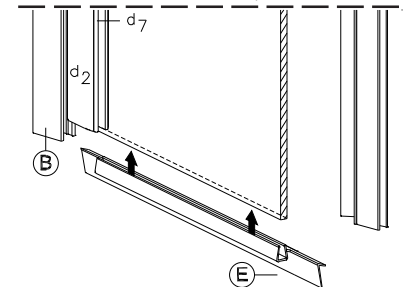
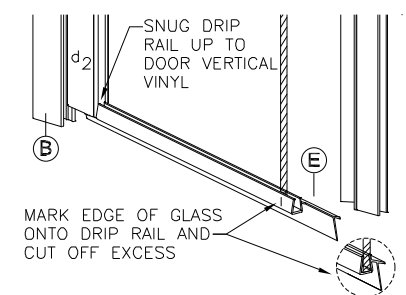

figure 5
figure 6
14. With drip wing positioned toward inside of shower enclosure, Insert Drip Rail (E) onto the bottom edge of the Door Assembly (D) as shown in exploded view - sheet 1 and figure 5. Now snug the Drip Rail up to the vertical Vinyl; mark the edge of the door glass on the rail and cut off the excess as shown in figure 6.